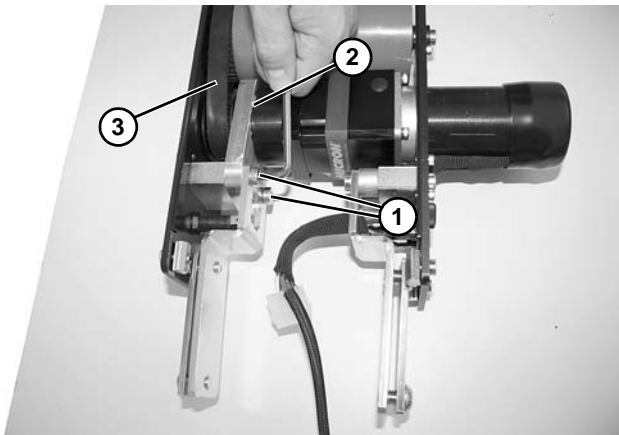

Figure 139
6. Remove two socket head screws (**Figure 139, item 1**).
7. Slide drive motor and plate (**Figure 139, item 2**) to loosen tension on timing belt (**Figure 139, item 3**).